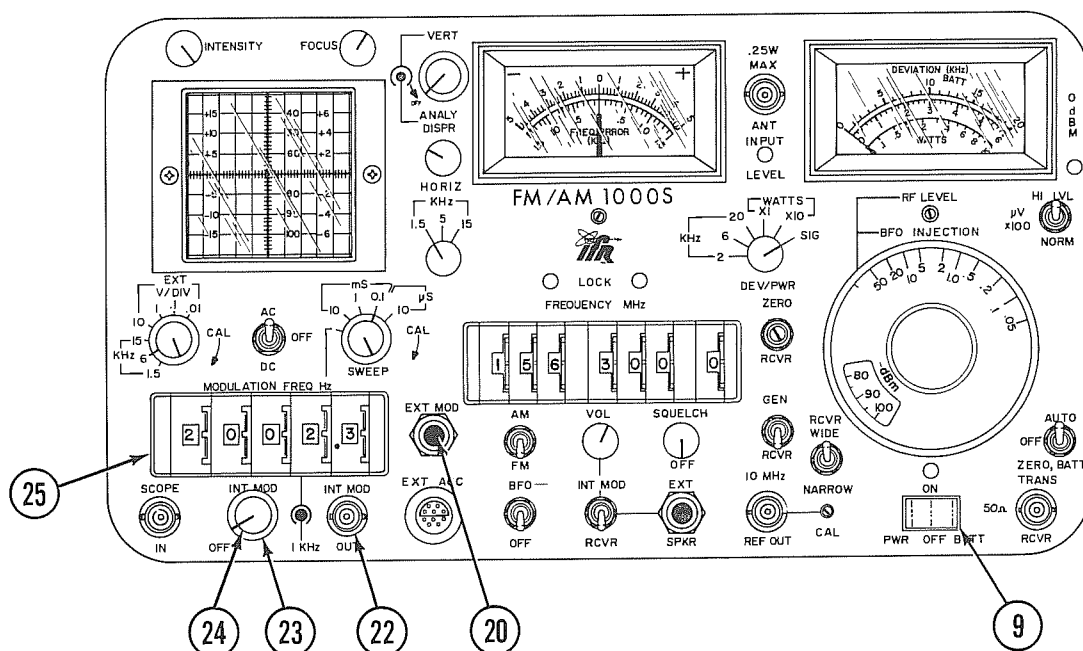

FIGURE 4-22 FM/AM-1000S CONTROLS APPLICABLE TO DUAL TONE GENERATOR OPERATION
| 2. | Set FM/AM-1000S controls for dual tone generator operation as shown in Figure 4-22, page 4-45. |
1.	Set FM/AM-1000S controls for dual tone generator operation as shown in Figure 4-22, page 4-45.
2.	Set MODULATION FREQ Hz Thumbwheels (25) for desired audio modulation tone.
3.	Place INT MOD/RCVR Switch (16) to "INT MOD" position.
4.	Rotate INT MOD Control (23) to a midrange position.
6.	Adjust VOL Control (17) to a comfortable listening level.